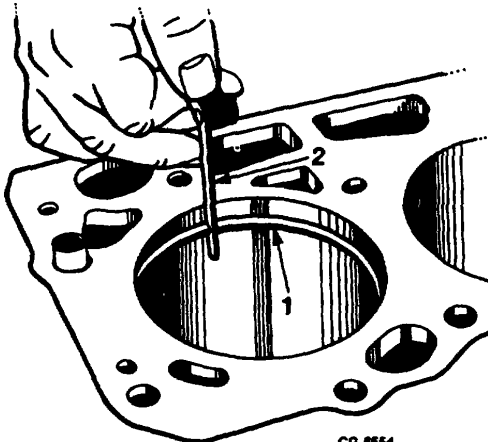

Figure 70. Checking Ring Gap
12. Prior to installing rings on pistons, each ring must be checked for proper ring gap. Push ring down into the cylinder bore, making sure ring is square with cylinder wall. Extreme care should be used during this operation. Check space or gap between the ends of ring with a feeler gauge (Figure 70). Ring gap should be within specified limits (See SPECIFICATIONS).